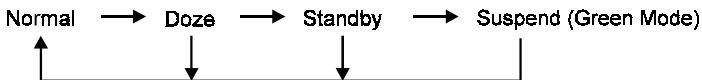

Figure 3-6 Power Saving Mode Flow Chart
- ✎ Note that enabling the Power Management function will result in enabling the HDD Power Down function (Max Saving = 15 min, Min Saving = 1 min). The HDD Power Down function is not part of the Power Management scheme as indicated in Figure 3-6. Refer to the Standby Mode, Suspend Mode, and HDD Power Down descriptions below for more information on hard drive power management.